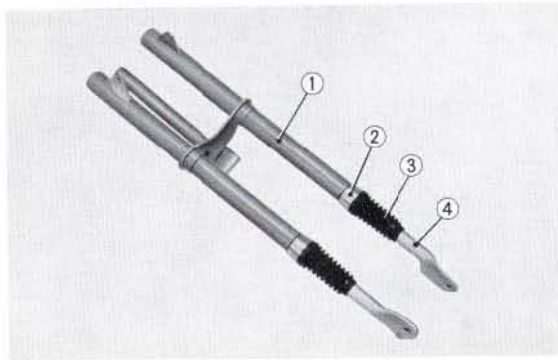

Fig. 4.16 ① Front fork ③ Front fork boot
9. Remove the front fork pipe slide cap from the front fork. Disassemble front fork sequence of front fork boots, fork pipe guide cap, oil seal cap, and the fork pipe guide. (Fig. 4.16, 17)